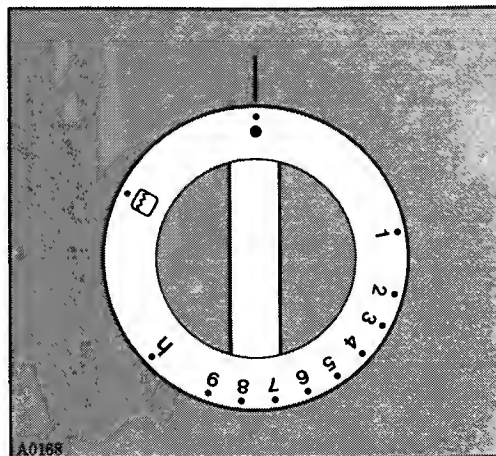

fig. 2
2. Firmly depress the oven control knob (Fig. 2) and turn it anticlockwise to the maximum setting and at the same time operate on the relevant pushbutton marked by a small electric spark. Keep the oven control knob depressed for 10-15 secs.